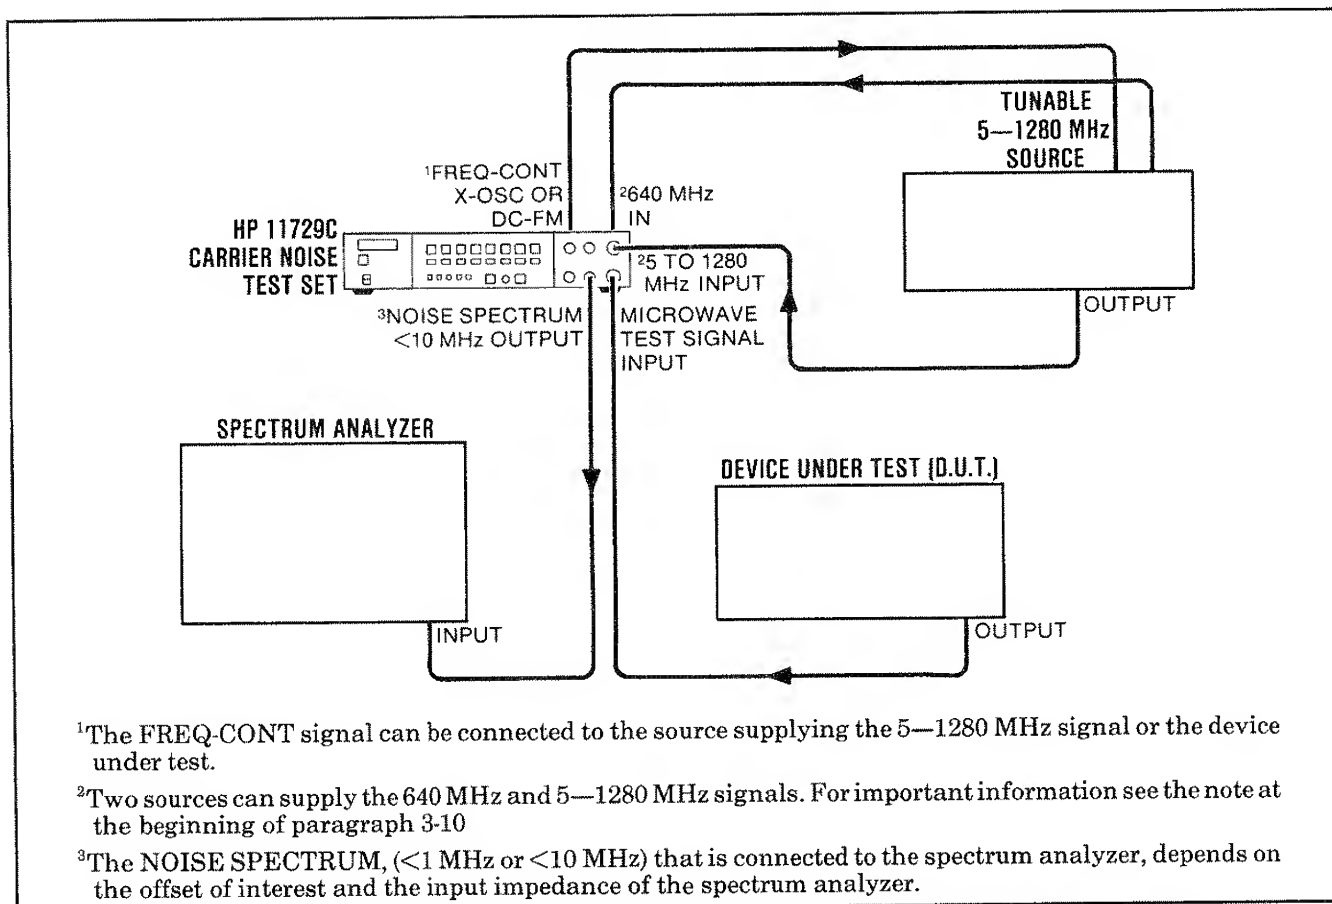

Figure 3-4. Interconnections to the Carrier Noise Test Set when making a Phase Noise Measurement (Using the Phase Detector Method)
- Figure 3-4 shows the interconnections to the Carrier Noise Test Set when making a phase noise measurement.